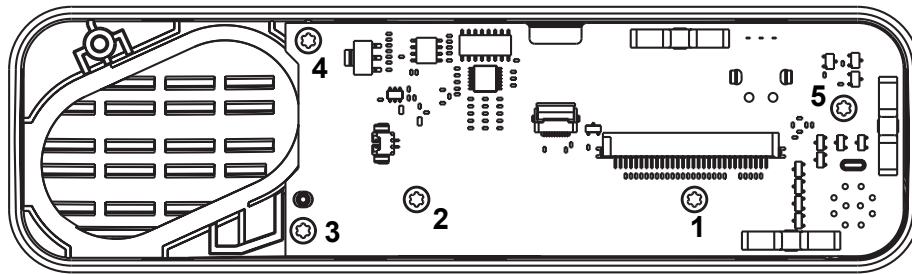

Figure 5-26 Screw Sequence
- c. Using a T10 TORX™ driver, tighten the five screws to 0.882 N-m (7.8 lbs-in) following the sequence as shown in Figure 5-26.